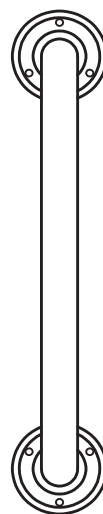

Fig.1
4. Insert the screws through the holes of the wall brackets and screw to the wall. (See Fig.1)